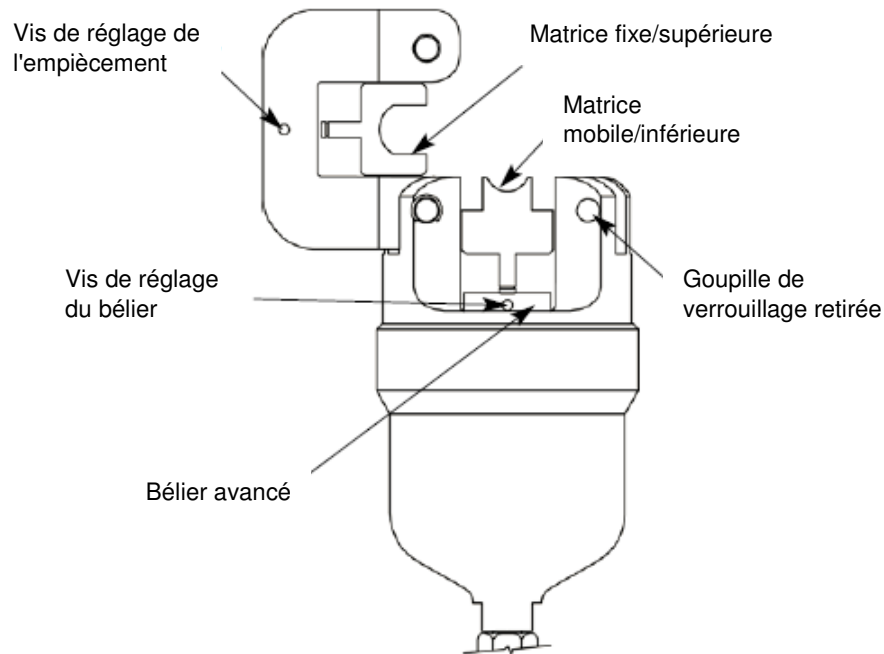

Figure 3
4. INSERTION ET RETRAIT DES MATRICES (FIGURE 3)